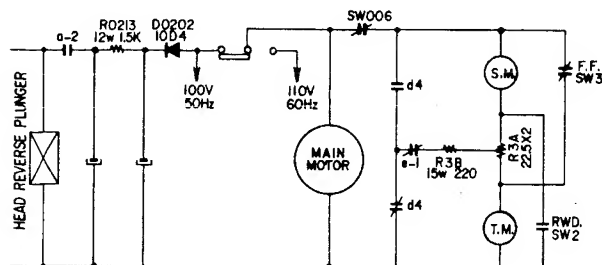

Fig. 7
When Fast Forward/Rewind Lever is set to "F. Fwd", Lever Spring "G" turns on SW006 Operation Switch F (Micro Sw) and Brake Levers (E) (E') free Brake. Further, SW-3 (Slide Switch) is turned "on", a 100V current is supplied to the Take-Up Motor and the Take-Up Motor rotates. (Refer to Fig. 7).